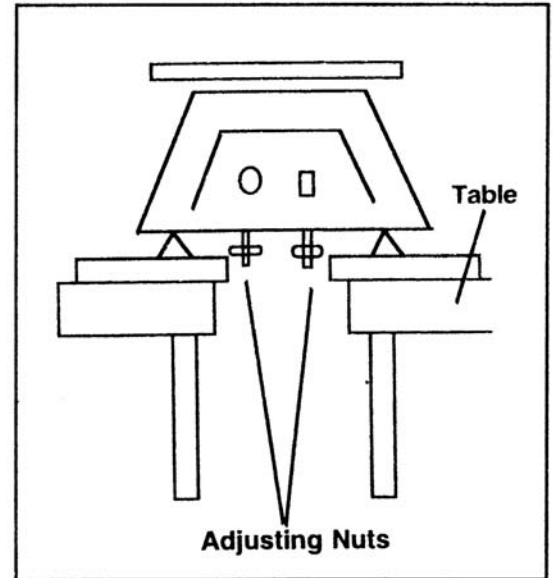

FIGURE 3: ADJUSTING THE AIR GAP
2. Elevate the jogger in order to access the adjusting nuts (Z) on the bottom of the jogger. (See Figure 3.)